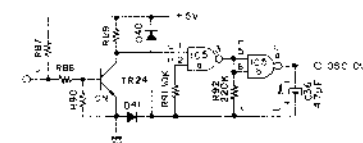

Fig. 9 Oscillation Stopped
(Refer to Figs. 9, 10)
During modes other than those listed above, TR24 is ON because base electric potential is supplied to it as shown in Fig. 9.
As a result, IC5a's input terminal ① becomes Low Level, as does the IC5b output terminal ④ and oscillation stops. At this point, C36 is discharged as shown in Fig. 9. IC5a's input terminal ② is High Level according to C36's electric potential.